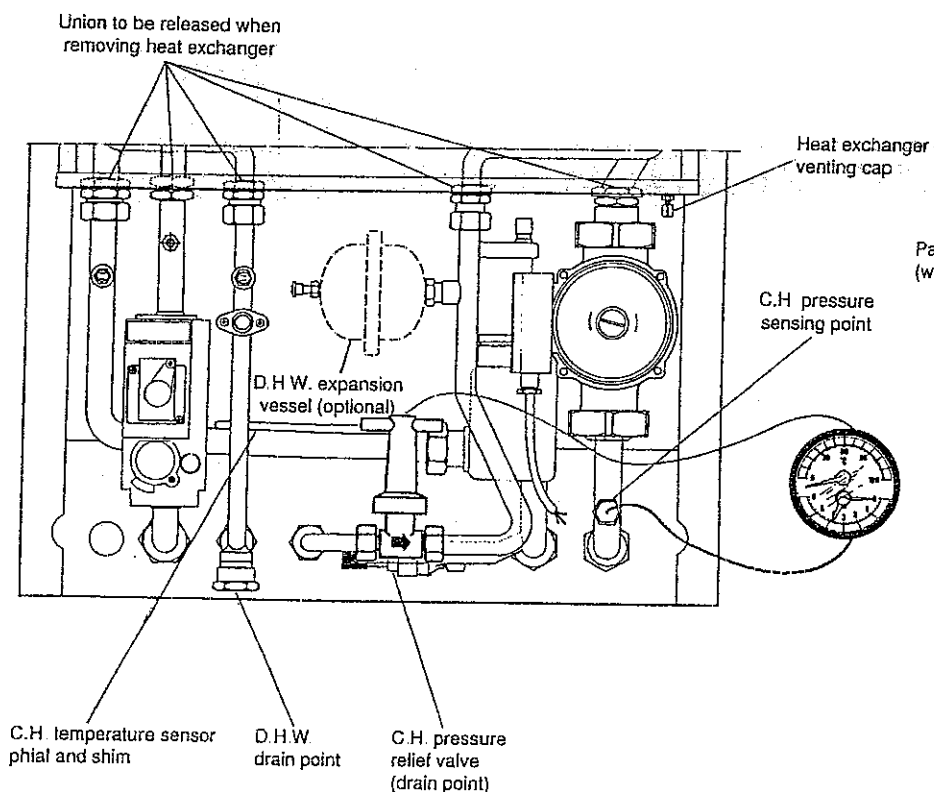

Fig. 37
- b) For replacement of parts where water connections are broken, it will be necessary to isolate and drain either or both the central heating or domestic hot water circuits of the boiler only. The cold water mains inlet is isolated at the inlet cock (fig. 1). The D.H.W. is drained via two caps (fig. 37). The C.H. flow and return cocks are turned off at the isolation cocks (fig. 1). The C.H. is drained via the pressure relief valve (twist about 1/2 of a turn). Also the drain point located pipe below the pump (fig. 37)
- Refer to section 1, items a, b, c, d, f and g (drain D.H.W. only fig. 37).
- b) Remove the shim then the temperature sensing phial from its pocket (fig. 37).
- c) Unscrew the pressure sensor from its housing (fig. 37). (Access from below).
- b) Unscrew the expansion vessel (fig. 37). (Take care not to loose the sealing washer).